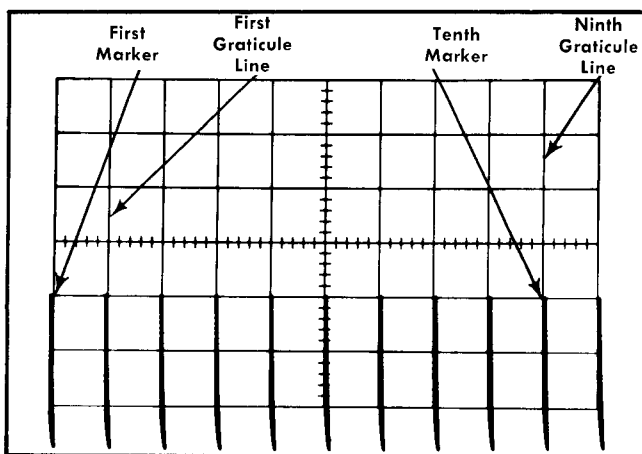

Fig. 5-12. Typical crt display showing correct normal gain adjustment.
- d. Check—Crt display for one marker each division between the first and ninth graticule lines (see Fig. 5-12) ± 0.24 division ($\pm 3\%$).